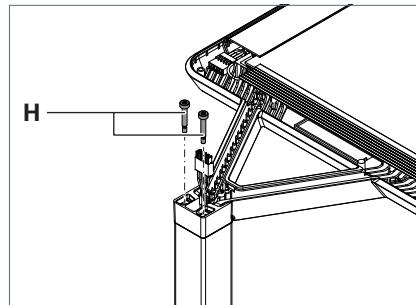

Fig. 4: Fixing the luminaire head in place.
- ▶ Tighten the two adjusting screws **H** until the screw heads are flush with the adapter, see Fig. 4.